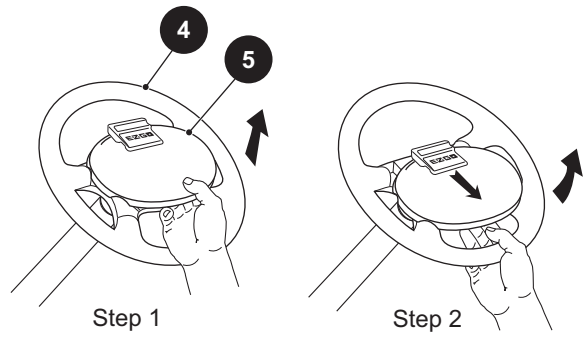

Figure 20 Clipboard Removal
- From the front side of the steering wheel (4), remove the clipboard (5) by first pulling straight up on the bottom of the clipboard to release the two bottom retaining tabs.
- Using your thumb for leverage as shown, reach from behind the steering wheel with fingertips to first pull down, and then push up to release the two top clipboard retaining tabs (Ref. Figure 20).
7. Inspect the four retaining tabs on the clipboard (5) for white stress lines (Ref. Figure 20). If stress lines are present, replace clipboard. Install by carefully pressing, first the top two, then the bottom two retaining tabs into the matching slots in steering wheel.